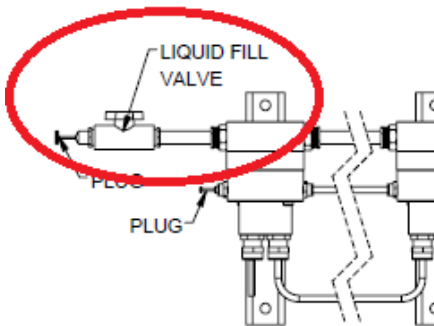

FIGURE 5-4 LIQUID FILL VALVE
- 3 With the liquid fill valve (Figure 5-4) closed and detached from the array, coil the tail of the siphon into the source container of the 50%-by-volume ethylene glycol and water solution.
- 7 Attach the liquid fill valve to the liquid tubes on the lowest end of the settlement array (i.e. to the sensor located farthest away from the reference sensor, see Figure 5-4).